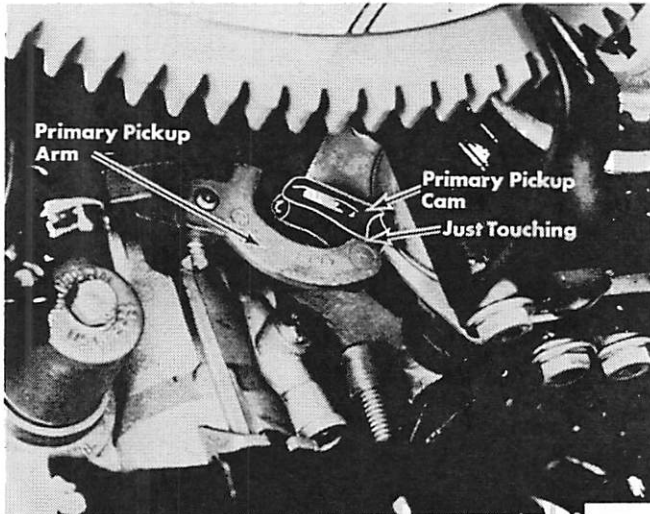

Figure 4. Primary Pickup Just Touching
2. With flywheel timing pointer aligned as above, the primary pickup cam should just touch primary pickup arm on carburetor cluster. (Figure 4)